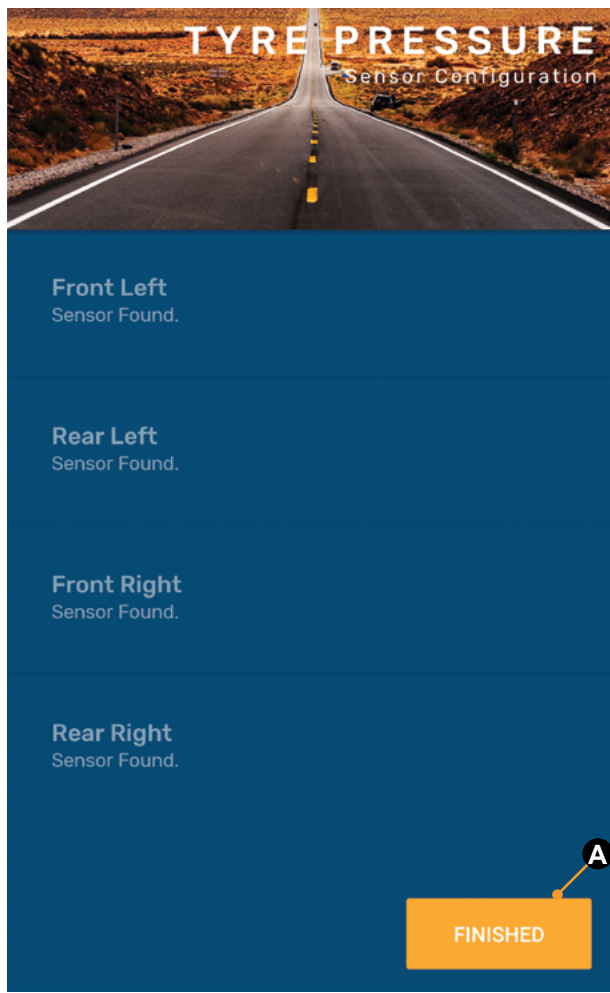

Fig.18
3. Repeat steps 2B, 2C and 2D until all sensors are learned (Fig.18).